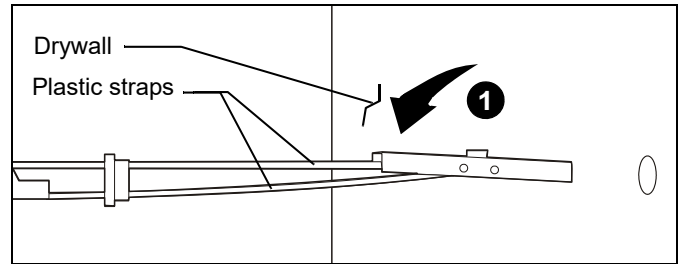

Figure 21
1. Hold metal channel on anchor flat alongside plastic straps and slide channel through hole. (See Figure 21)